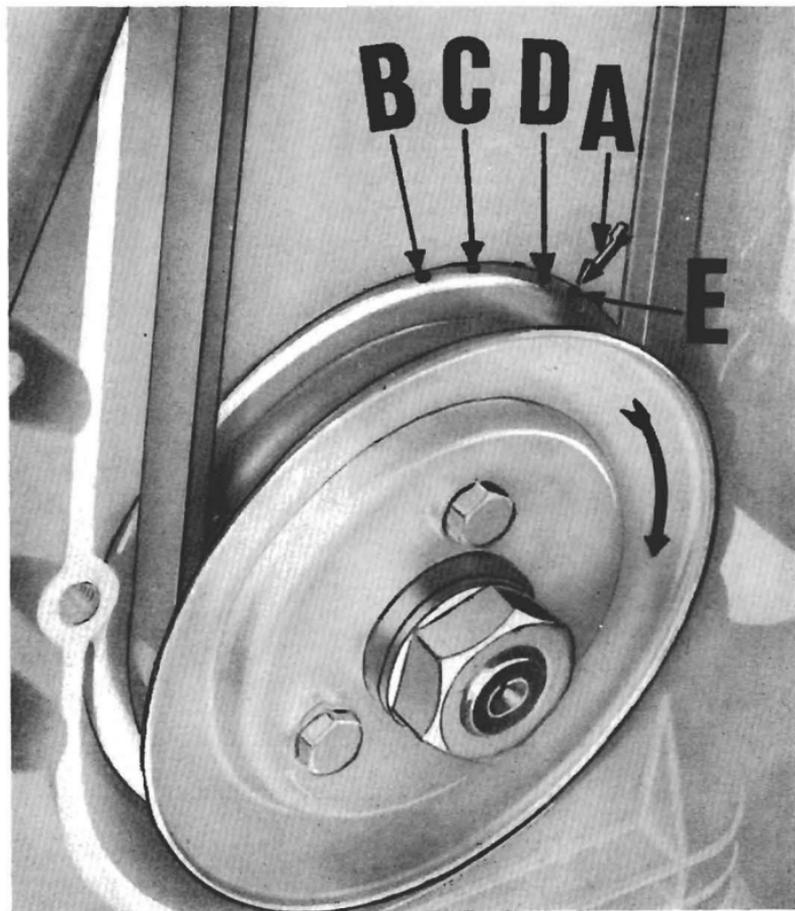

Fig. 26
Remove generator belt cover. Check that the distributor contact points are 0.42-0.48 mm. (.016"-0.018") apart. Ensure the left cylinder (2) is on its compression stroke i.e. with both valves closed. Rotate the generator pulley on the crankshaft till the slot (see fig. 26) is opposite mark A traced on the timing cover.
The new reference marks on the pulley (See fig. 26 and diagram 27) can be defined as follows: